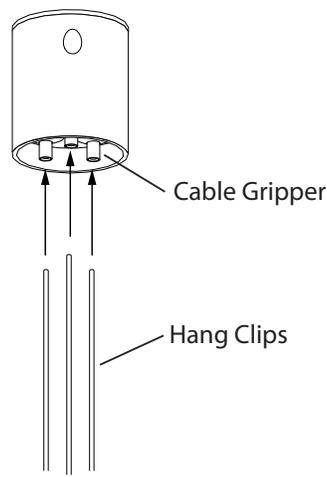

Fig. 2b
3. Insert the Hang Clips (Fig. 2b) into the 3 Cable Grippers on each of the Triple Ceiling Hangers until approx. 1" of cable has exited the Hanger Head. NOTE: The final height of the configuration will be set by adjusting each Hang Clip while installing Sections 1-7 on pages 12-25.